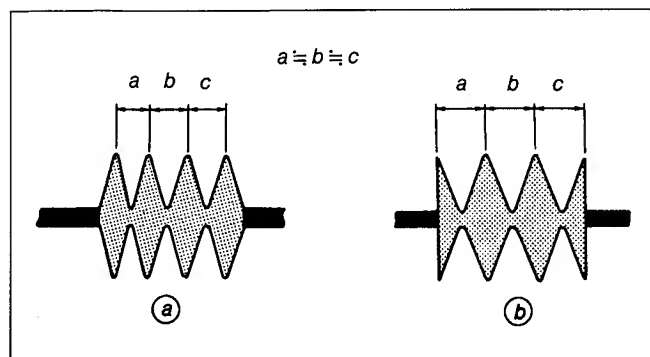

Fig. 8-62.
- 1) Playback the tracking alignment tape and select the REV mode. At this time, waveform peak pitches should be uniform. (Refer to Fig. 8-62(a).)
- 2) Select the CUE mode. At this time, waveform peak pitches should be uniform. (Refer to Fig. 8-62(b).) When they are not uniform, make tracking fine adjustment (8-4-4).